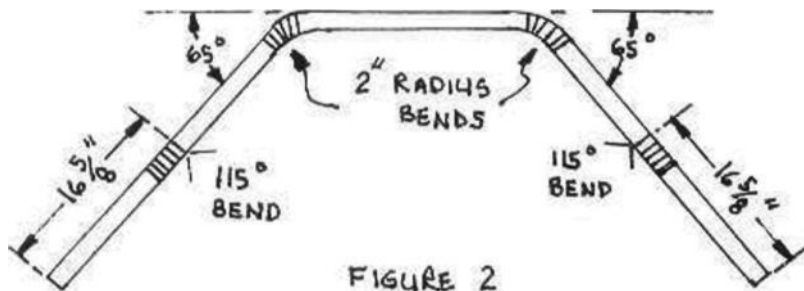

FIGURE 2
2. After you have your first 2 bends, mark for the next 2 bends as shown. Be sure that you bend in the shaded area only. See Figure 2 below.